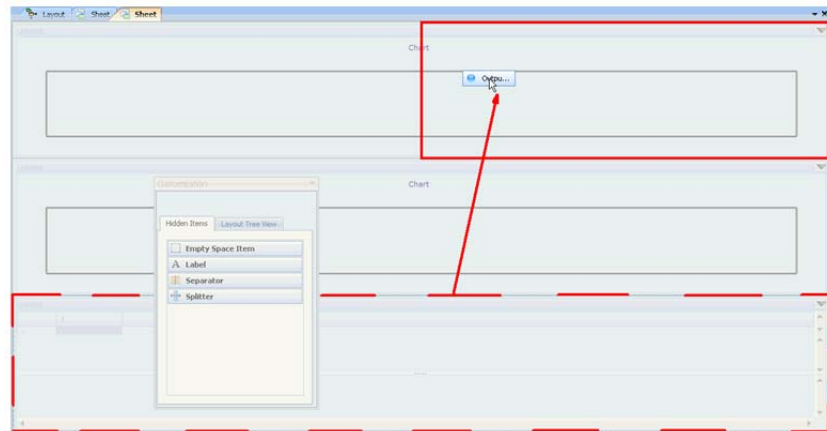

Figure 5.21 Re-arrange objects in a Sheet in 'Design Mode'
- *objects* may be repositioned, relatively to the other objects in the same 'Sheet', by dragging their Title bar (Figure 5.21);